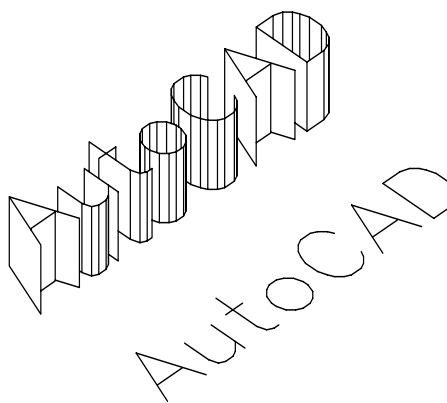

Figure 2-45 Text with and without thickness
4. To write text with thickness, first write a single line text and then change its thickness using any of the commands that modify the properties, refer to Figure 2-45.